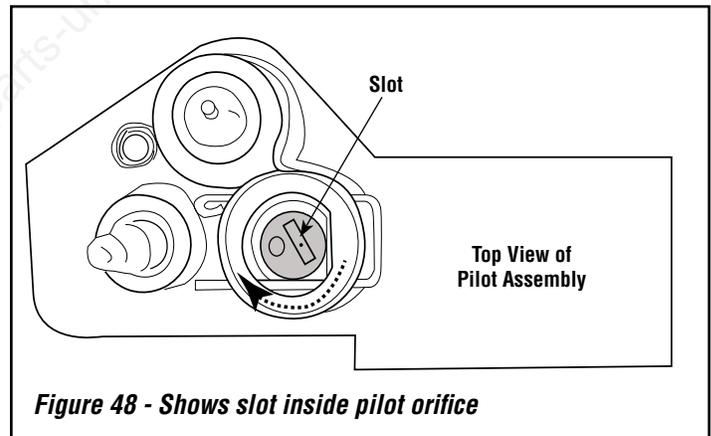

Figure 48 - Shows slot inside pilot orifice
Step 9. Insert a small flat bladed screwdriver into the slot of the brass orifice inside the pilot assembly and turn clockwise until it stops (approximately 2 full revolutions). See **Figure 48**.
NOTE: Figures 48 and 49 provide a visual reference of the pilot orifice from Natural gas to LP gas through the vent hole of the pilot assembly.